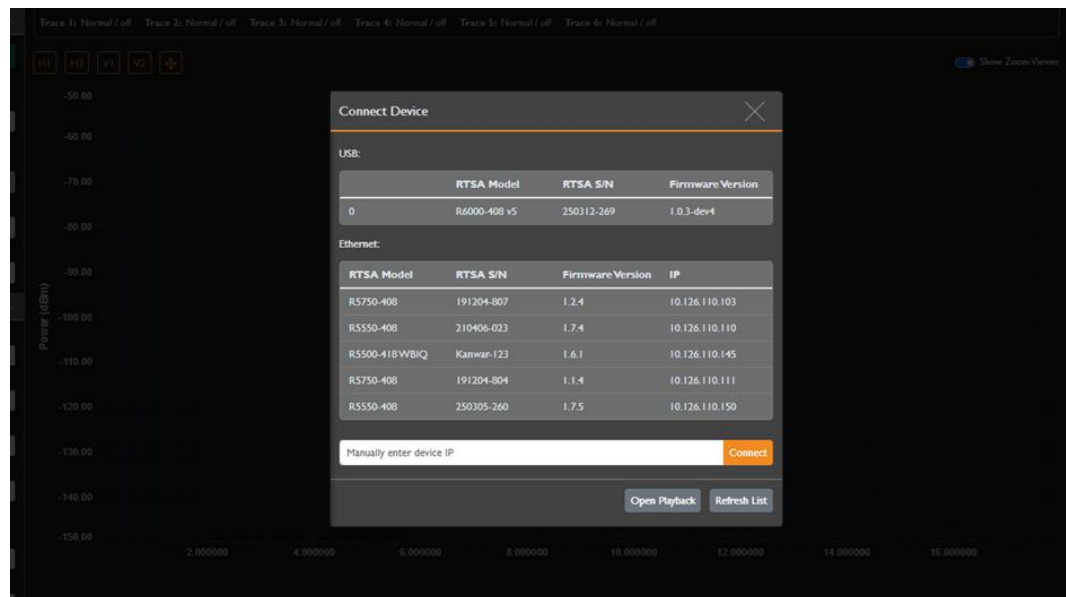

Figure 3: Start-up Screen for RTSA users
2. When Spectraware launches, a **Connect Device** dialog will appear (see Figure 3).